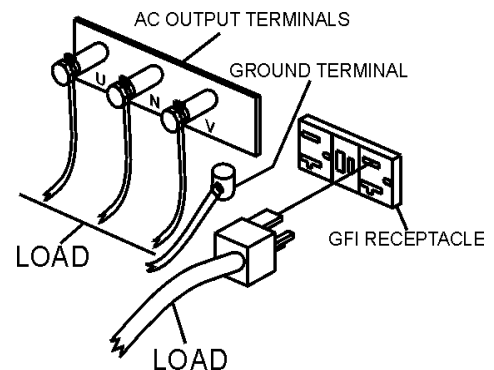

Figure 35. UNV Terminal Lugs (Load)
2. Connect the load to the UNV terminals as shown in Figure 35. These terminals can be found on the output terminal panel, (see page 29 Figure 10). To gain access to the output terminals lift the UNV cover. Tighten terminal nuts securely to prevent load wires from slipping out.